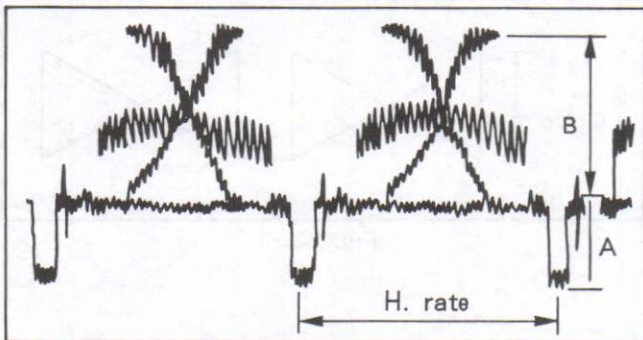

Fig.C14
- (4) Adjust the YH Level Control (VR315) so that the signal level "B/A" is 2.33 +- 0.15 as shown in Fig. C14.
- (5) Disconnect the jumper wire.